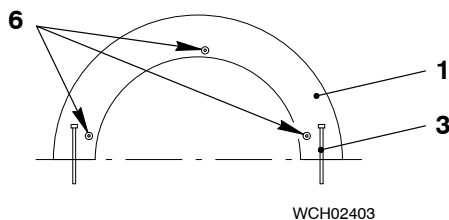

Fig. 4
- 2) Put one half of the crankshaft gear wheel (with two assembled elastic studs (3)) in position on the crankshaft flange.
- 4) Remove the grease from all flange screws (6, Fig. 4) and their locknuts.
- 5) Put three flange screws (6, Fig. 4) in position as shown in the wheel half (1). Tighten the screws temporarily.